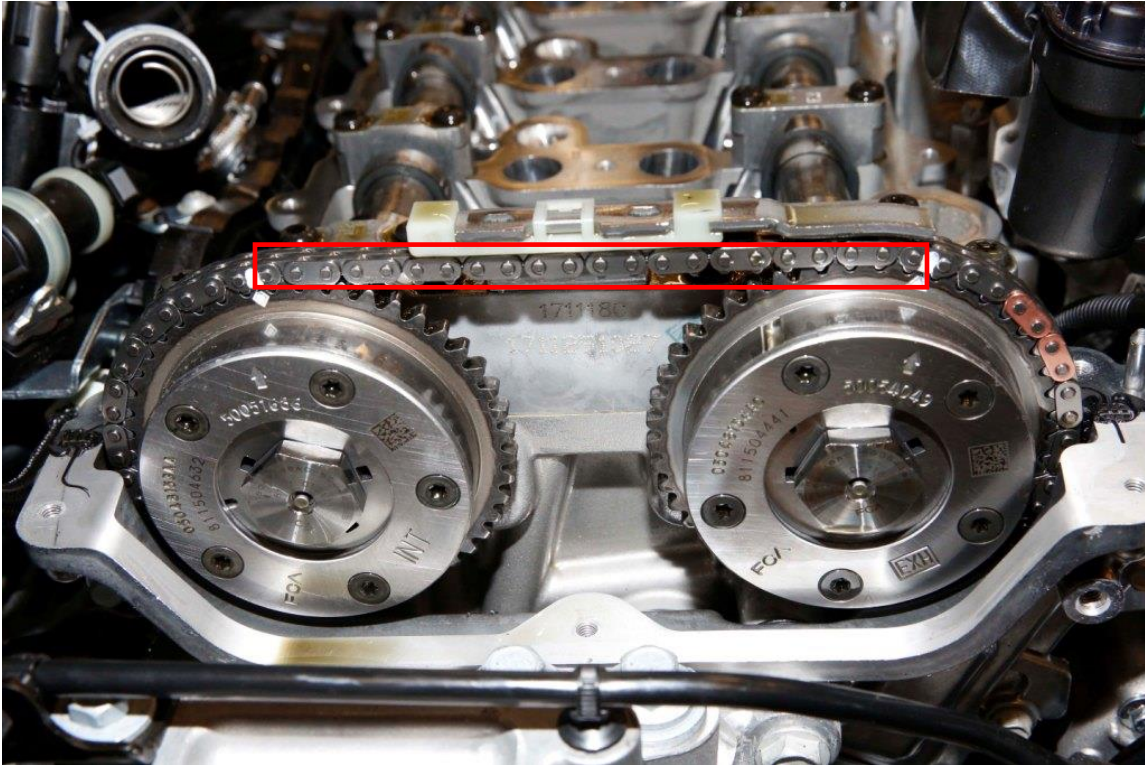

Figure 30 – Camshaft Timing
83. Verify that there are 22 chain pins between the intake and exhaust phaser timing marks sprockets (Figure 30).